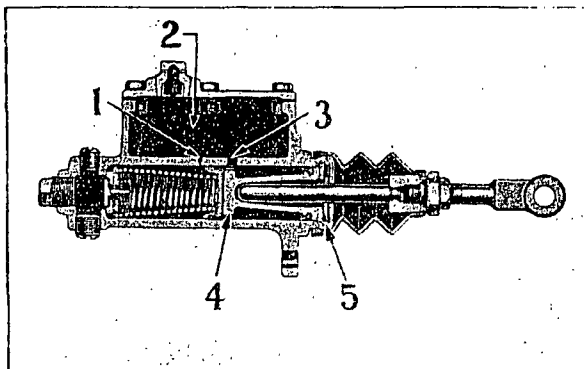

Fig. 68—Brake Master Cylinder
Unless replacing a piston push rod or push rod end, do not change adjustment of the end piece. This is seldom, if ever, required. The factory adjustment is correct and permits the piston cup to just pass the relief port (1, Fig. 68), and yet avoid covering the supply port (3), when the pedal is in the released position.
"Free Play" is taken up, fluid should be forced up through the relief port (Figure 68) until the pedal has moved through an additional $\frac{5}{8}$ " to $\frac{3}{4}$ " (approximately), making an accumulated pedal travel of approximately $\frac{3}{4}$ " to 1" required to close the relief port with the primary cup. If fluid does not come up through the relief port, or if the flow stops at a pedal travel much less than $\frac{3}{4}$ ", the free play should be checked. If the free play is not the cause, the master cylinder should be disassembled and inspected for swollen cups, etc.